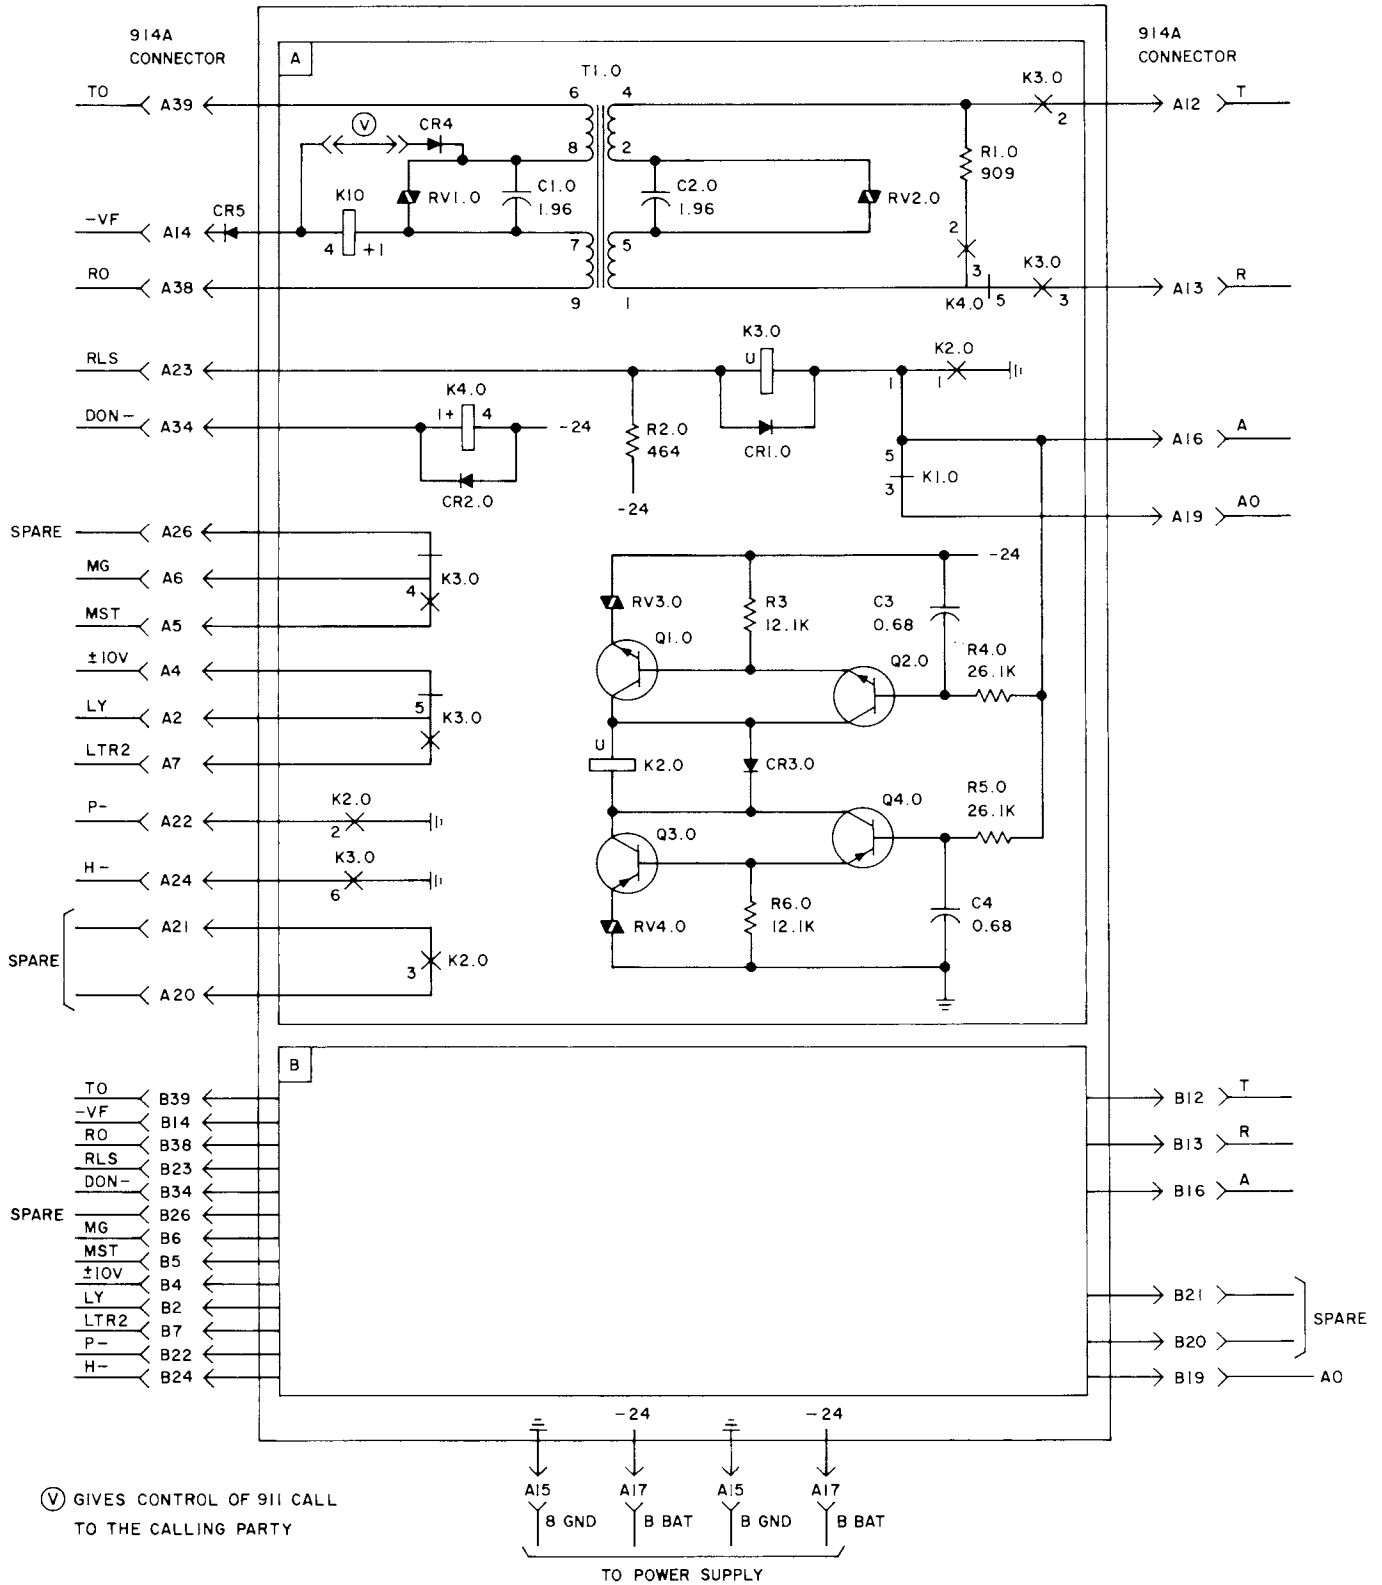

Fig. 13—Condensed Functional Schematic of Circuit Pack HK9 (Dial Line Transfer Circuit)
3.11 The HK9 (Fig. 13) provides a transmission path and control functions when an incoming 911 call is transferred to a 2-way dial line. The HK9 is connected in the system between a transfer switch (HK7) and a 2-way dial line circuit (400D KTU). One HK9 is required for every two 2-way lines.
‡ Refer to Fig. 13 for positioning.